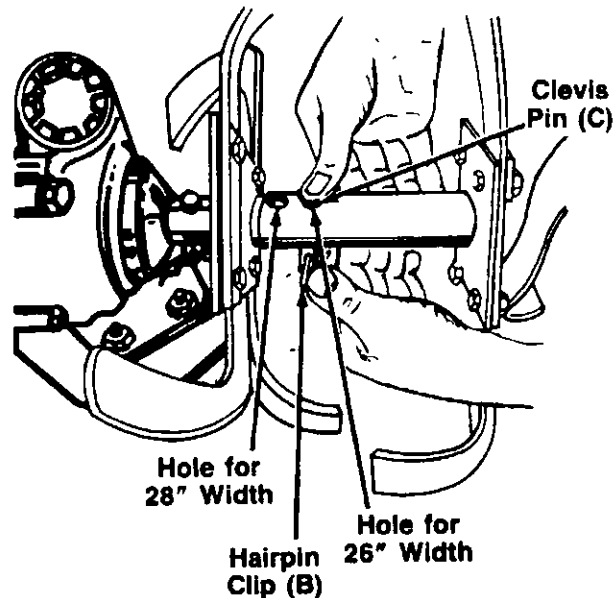

FIGURE 13.
3. Align one of the holes in the tine assembly with the hole in the tine shaft. Using the end hole on the tine assembly will give a tilling width of 28". Using the second hole will give a tilling width of 26". See figure 13.
4. Secure with clevis pin (C) and hairpin clip (B).